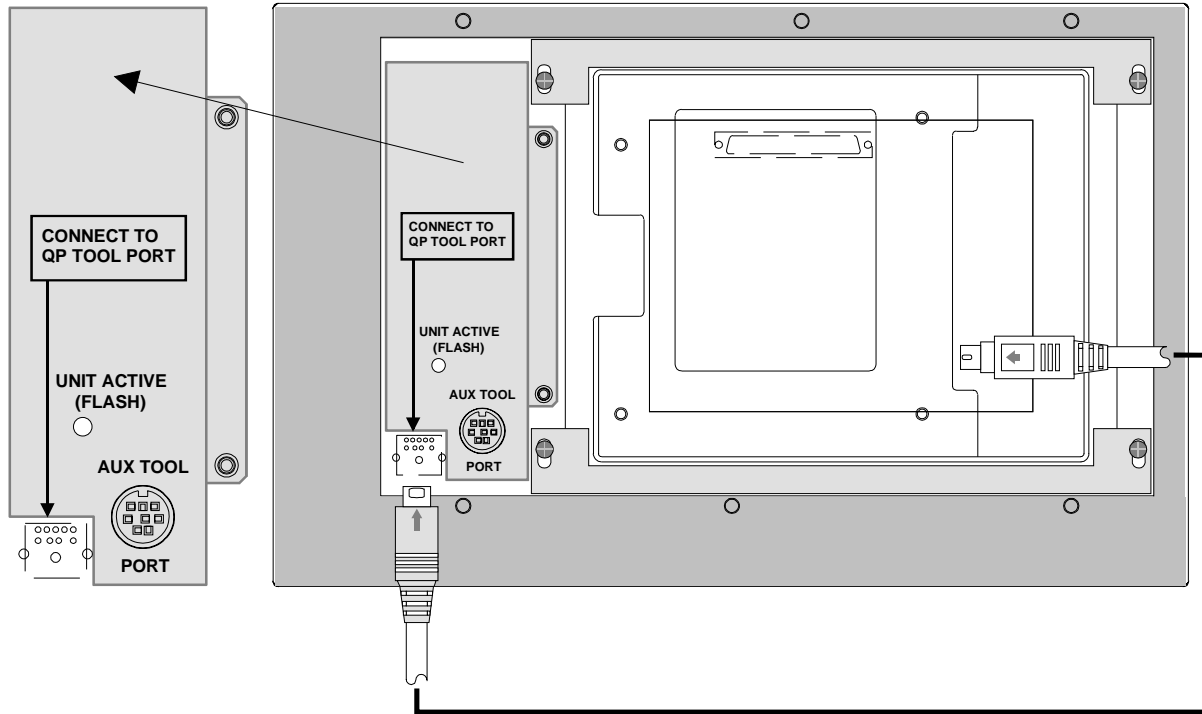

Figure 25, Keypad Rear View (After QuickPanel Installation)
- 2) Using a screwdriver, remove the two screws holding the back cover on the Keypad, and carefully remove the back cover itself, as shown in Figure 25.